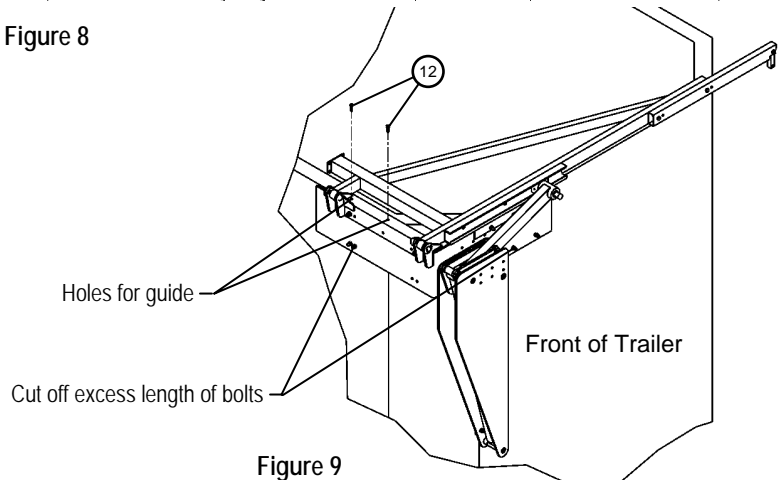

Figure 9
11. See *Figure 9*. Cut off excess length of bolts from previous step.
12. See *Figure 9*. Drill two .339" (R drill) diameter holes using the holes in the swing arm as a guide.
13. See *Figure 9*. Insert two 3/8-16 x 1 1/2 Torx type F into drilled holes and tighten.